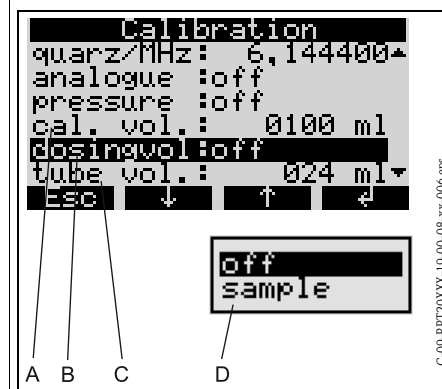

Fig. 19: Menu level CALIBRATION
4. Select the menu level CALIBRATION in the controller ( => Fig. 19; over: SETUP - SERVICE - CALIBRATION).
5. Enter the required calibration volume into the menu point CAL.VOL. ( => Fig. 19, pos. A).
6. Select menu point "DOSING VOL" ( => Fig. 19, pos. B).
7. Start a sample sequence by selecting the function SAMPLE in the selection list ( => Fig. 19, pos. D). Wait until the sampling sequence has ended.